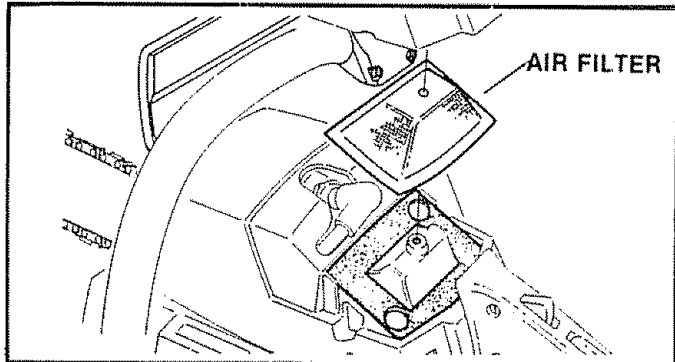

Figure 55
3. Remove the carburetor cover. Figure 55.